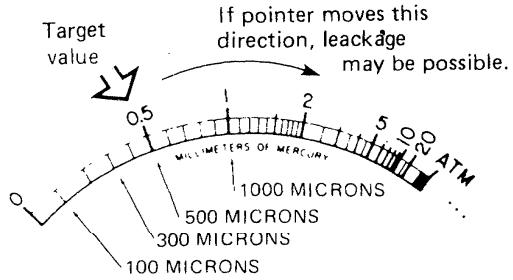

Fig. 25
- 7) Keep this condition at least 5 minutes and observe the vacuum gauge for change. (Fig. 25)